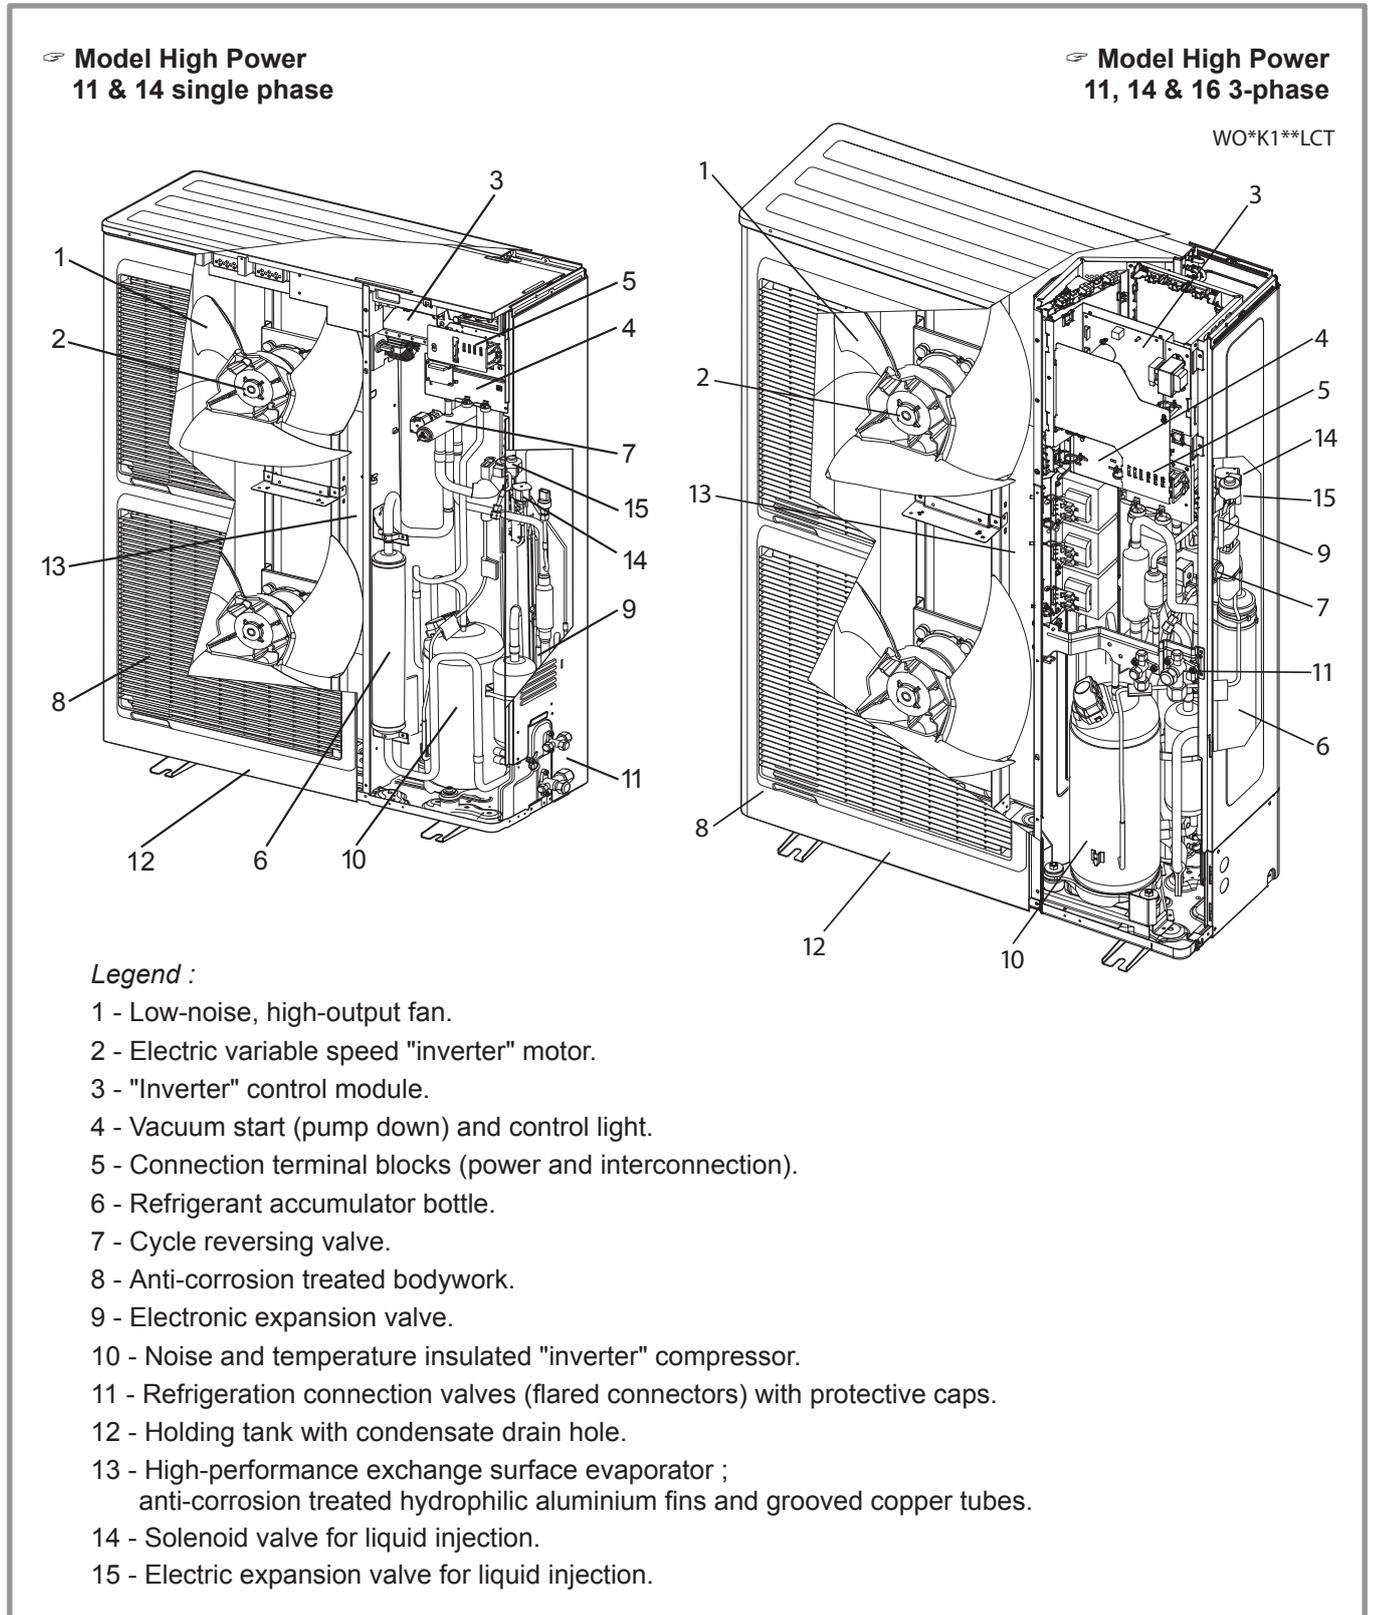

figure 6 - Outdoor unit components
- In the evaporator (ref. **13**, figure 6, page 9) :
- In the compressor (ref. **10**, figure 6, page 9) :
- In the expansion valve (ref. **9**, figure 6, page 9) :